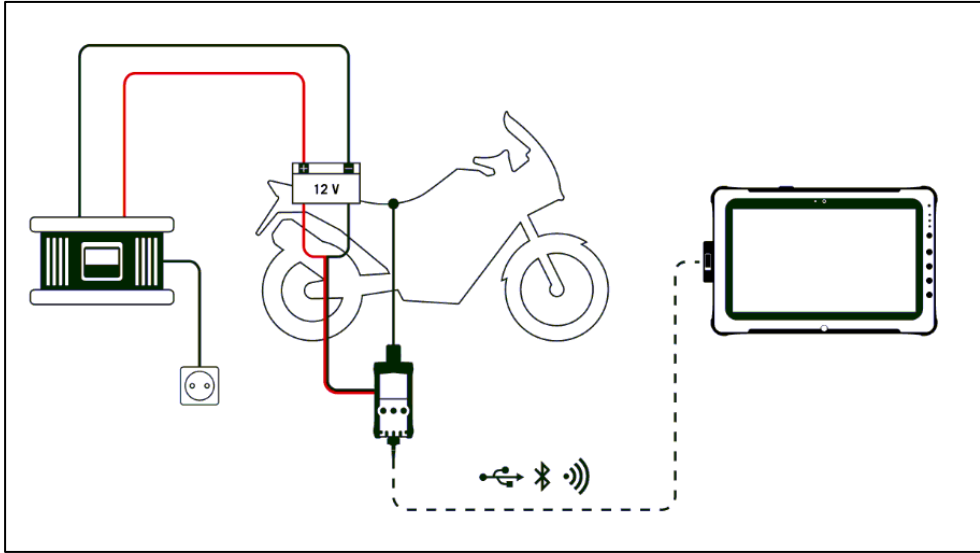

Fig. 1
- Connect the XC\_2 diagnostic tool and VCI with the BV8289 external power supply to the vehicle, preferably via USB (Fig.1).